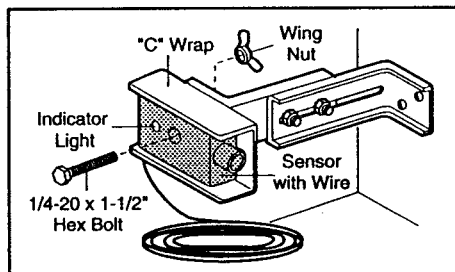

Figure 6
- Center each sensor unit in a "C"- wrap with lenses pointing toward each other across the door (see Figure 6).